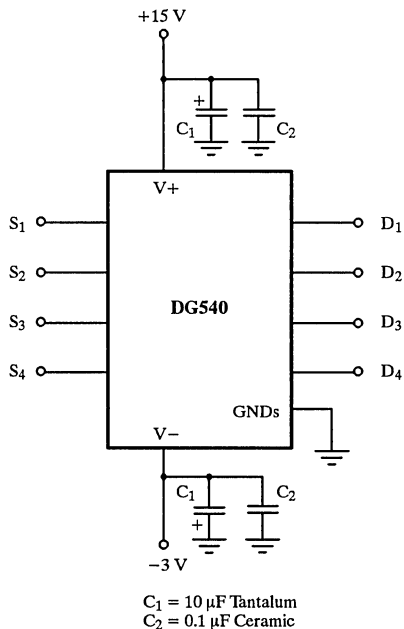

Figure 7. Supply Decoupling
- (1) Decoupling capacitors should be incorporated on all power supply pins ($V+$, $V-$). (See Figure 7.)
- (2) They should be mounted as close as possible to the device pins.
- (3) Capacitors should have good high frequency characteristics – tantalum bead and/or monolithic ceramic types are adequate.